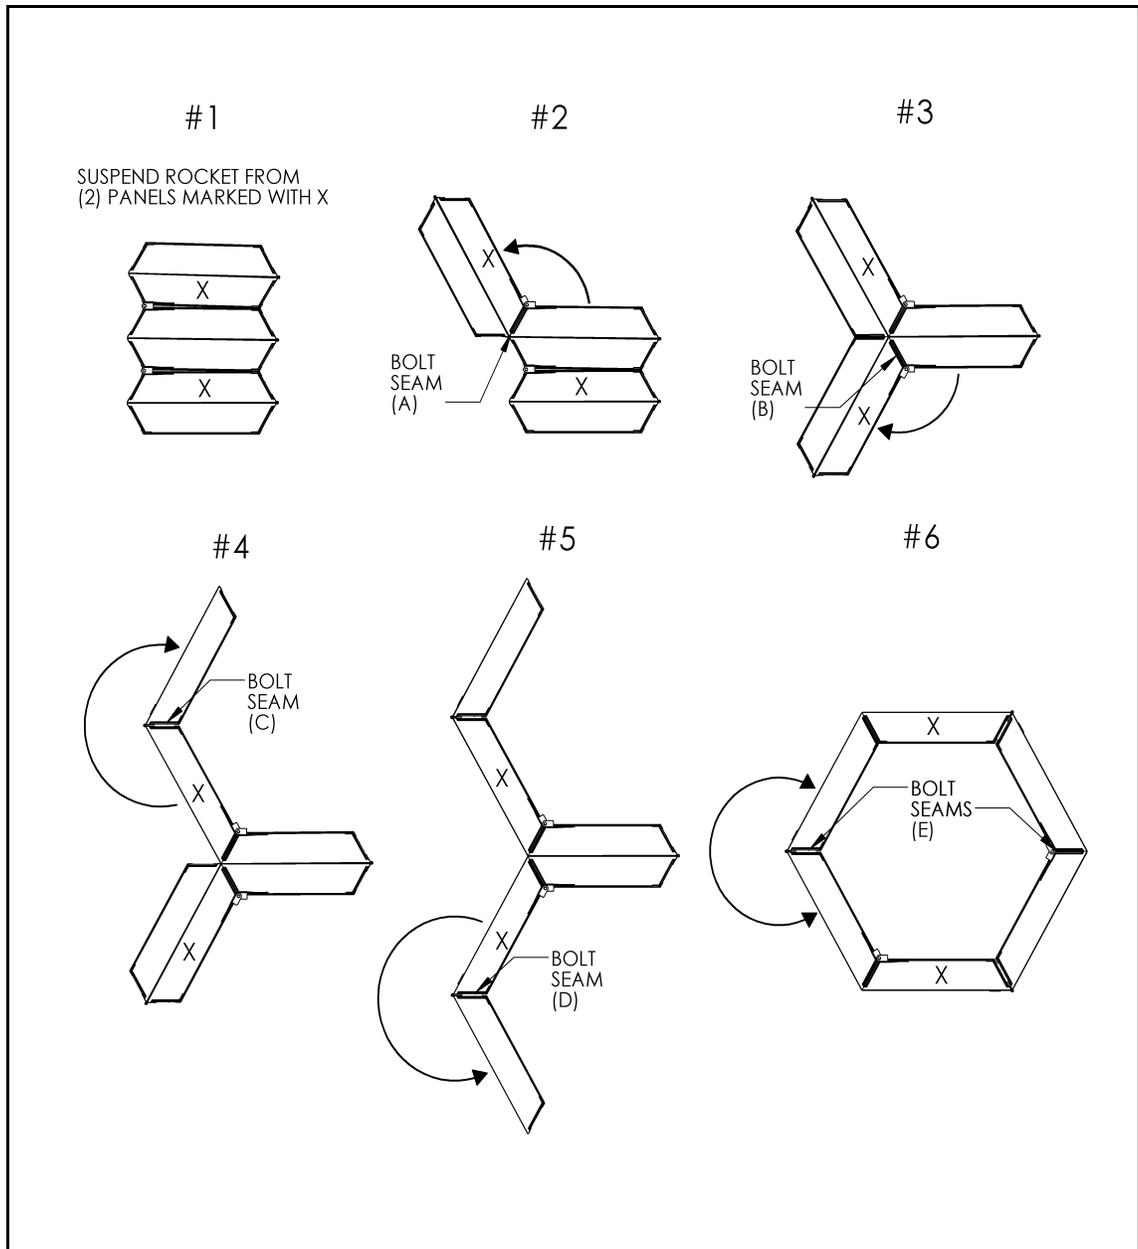

Figure 3.9
6. Swing the first and second sections outwards at the same time. Sections can be fastened together with a clamp to prevent outside panel from swinging outwards. See Figure 3.9, #2.
8. Repeat step 6 on other side, bolting top flanges together at point B. See Figure 3.9, #3.
9. Swing outside section outwards (Figure 3.9, #4). Secure top flanges with bolt at point C.
10. Repeat step 8 on other side, securing with bolts at point D. See Figure 3.9, #5.
11. Swing the two halves towards each other. Hold swinging sections firmly to prevent them from closing together quickly and pinching any body parts. Fasten top panels together with bolts at point E. See Figure 3.9, #6.